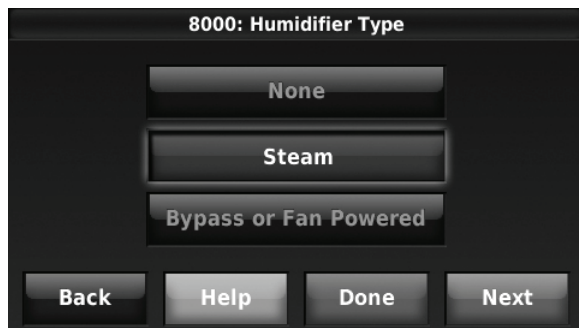

Fig. 211.
1. Select the Humidifier Type at ISU 8000. See Fig. 211.